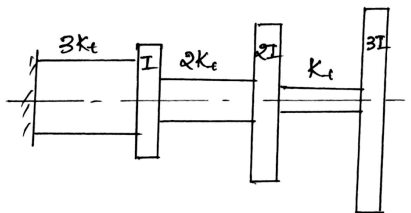

Fig Q8
- 8 Using Stodola's method, determine the lowest natural frequency of the torsional system shown in Fig Q8.